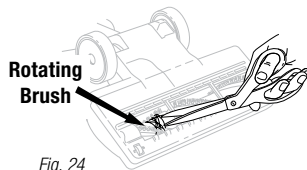

Fig. 24
- 2 Inspect the opening underneath and the rotating brush. If a build-up of debris is present, remove it. Carefully cut anything wound around the rotating brush with scissors. Avoid damaging or cutting the bristles. **(Fig. 24)**